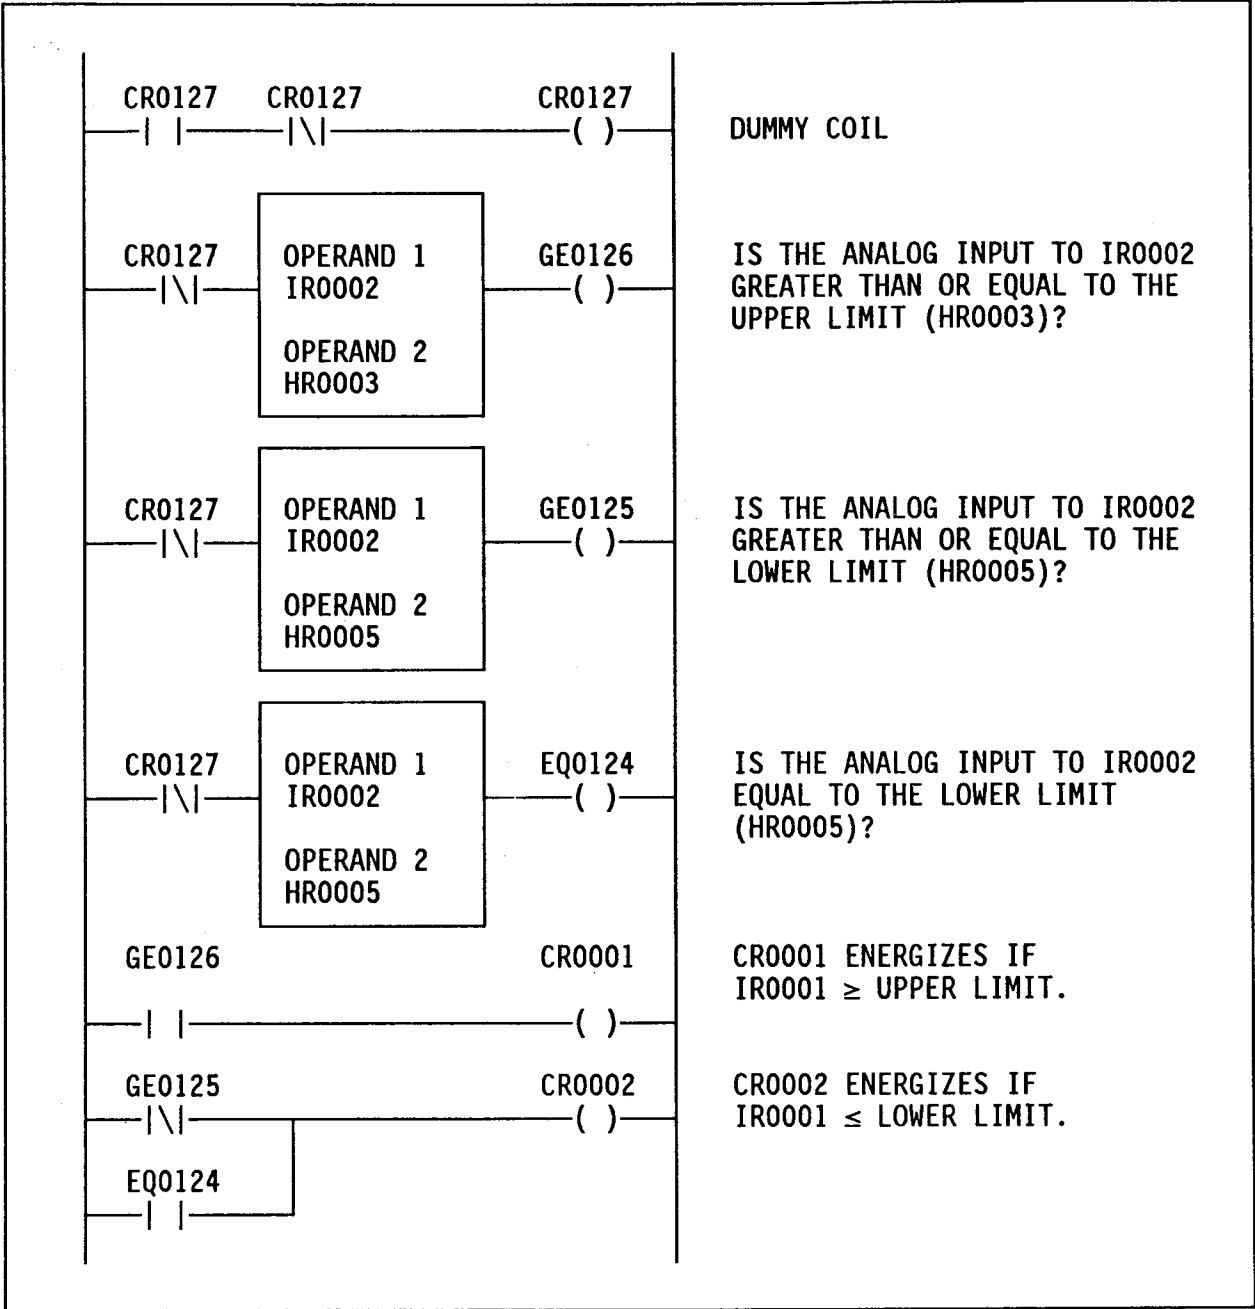

Figure 2. Limit Comparisons
The GE/EQ functions allow monitoring of an analog input within a range of values. In the Add (AD)/Subtract (SB) functions, a method of setting a range around a set point is discussed. Using the limit registers established in that example, HR0003 holds the upper limit, and HR0005 holds the lower limit, as shown in Figure 2.